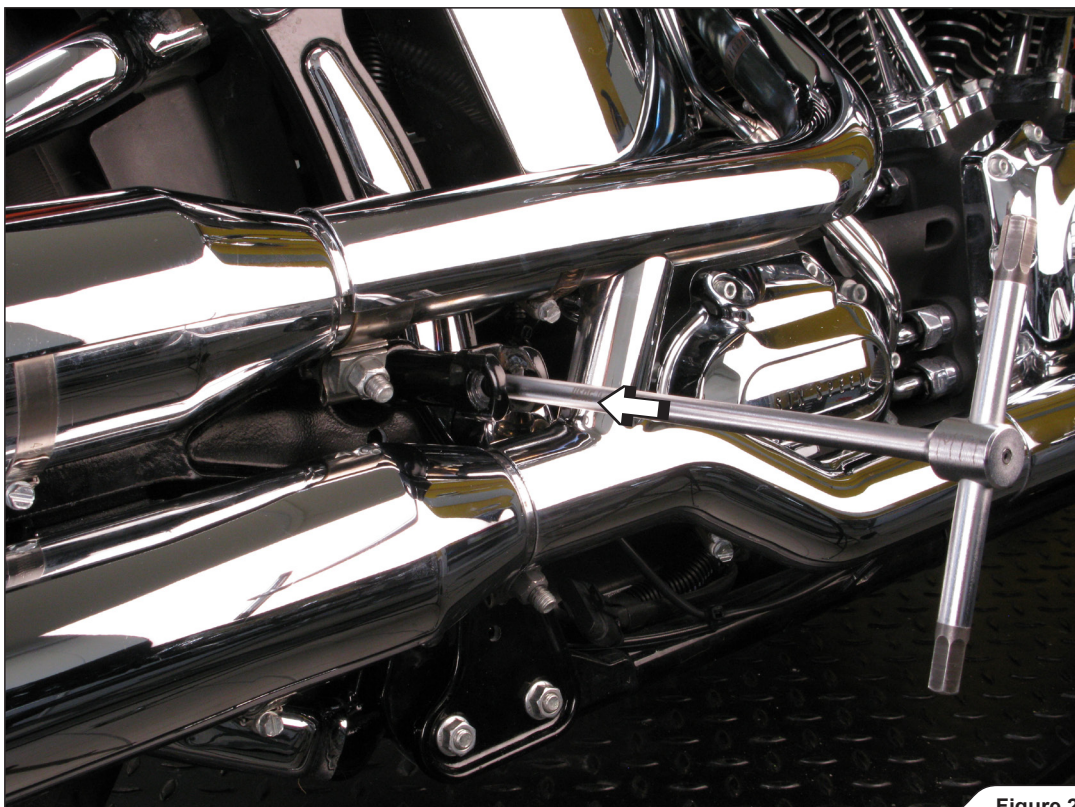

Figure 2
3. Unscrew and remove rear right footrest bracket (**Figure 2**).